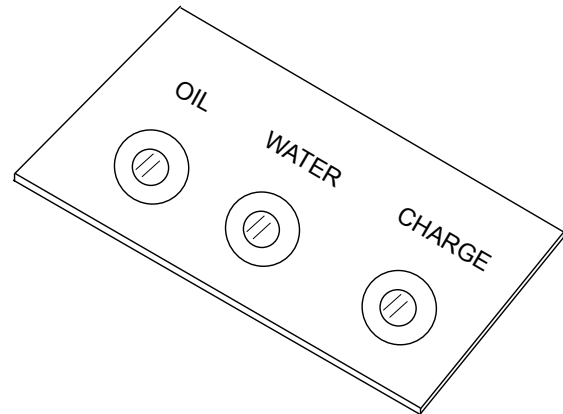

Figure 10. Oil and Charge Indicator Lights
5. Turn the ignition key clockwise to the (start) position. The oil, charge, and preheat indicator lights (Figure 10) should be ON.